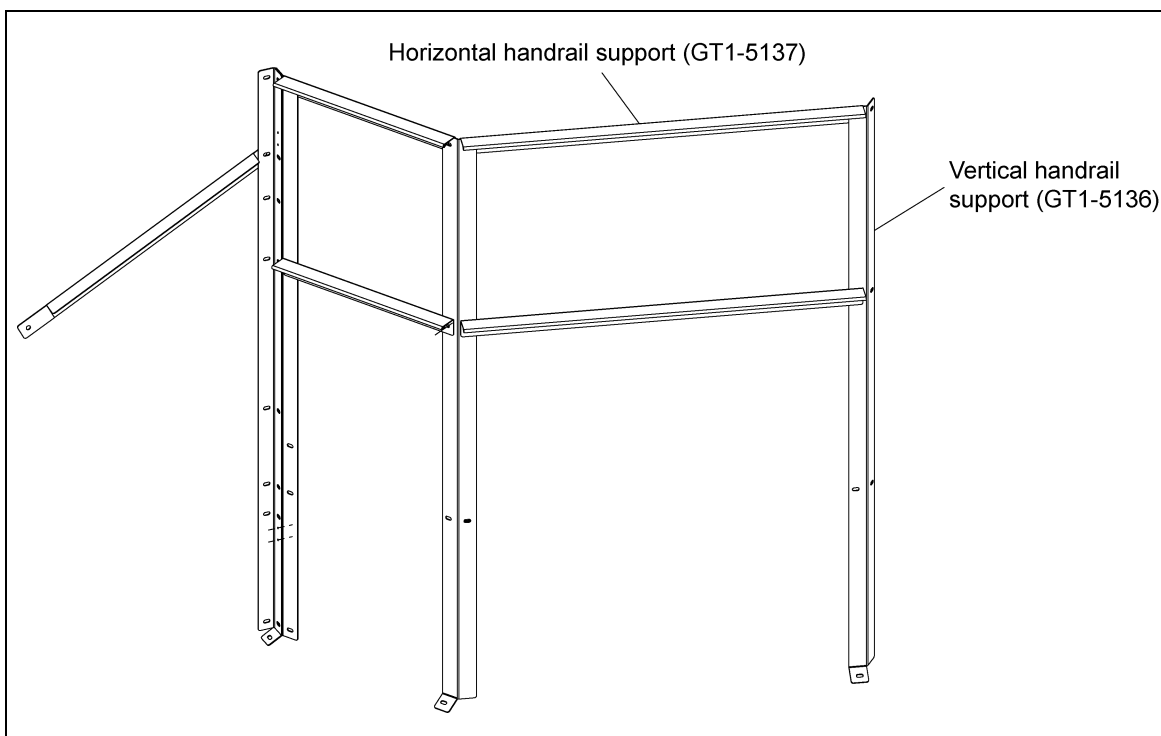

Figure 3E
4. Assemble vertical handrail support (GT1-5136), horizontal handrail support (GT1-5137) using 5/16" hardware. (See Figure 3E.)